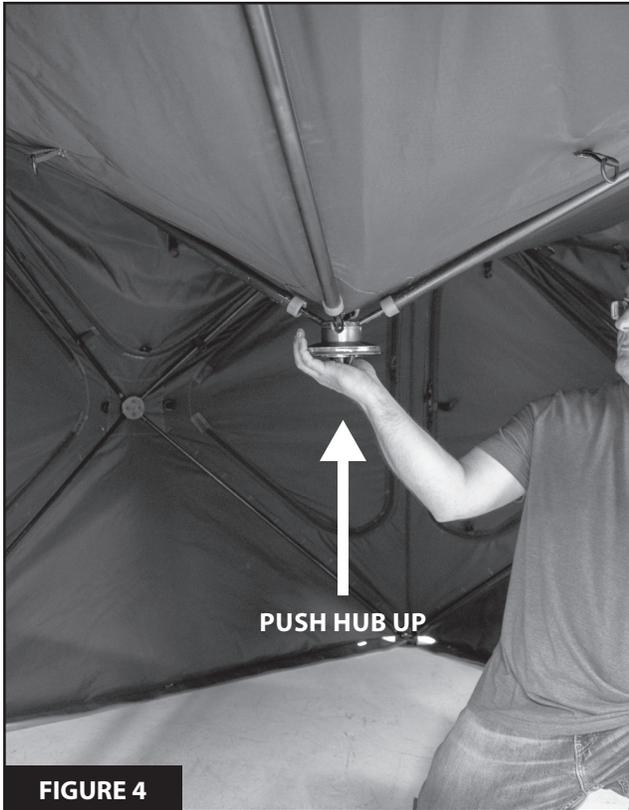

FIGURE 4
- Unzip the door and enter the blind. Place palm of your hand on the roof hub and push the spring loaded roof straight up until it pops over center. **SEE FIGURE 4.**